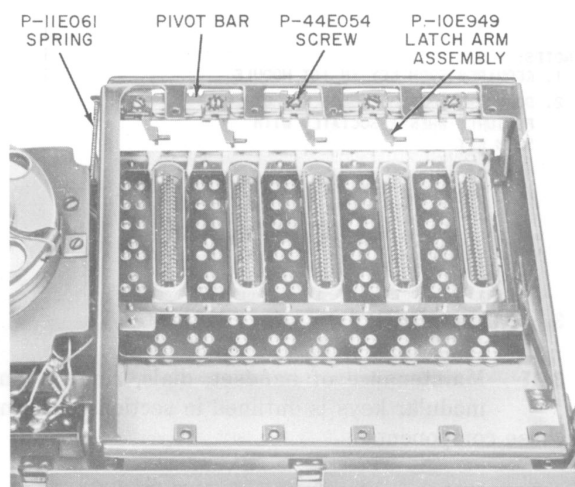

Fig. 12—Pivot Bar Assembly (Early Production)
3.08 When an operated pickup key does not remain depressed or release any previously operated key on early production sets, adjust the latch arm assembly (Fig. 12) as follows: